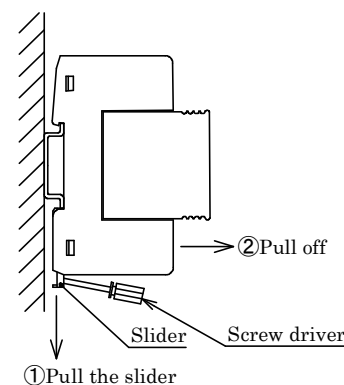

Fig.3 Removing from DIN rail
b) Removing method (Ref.Fig.3) :